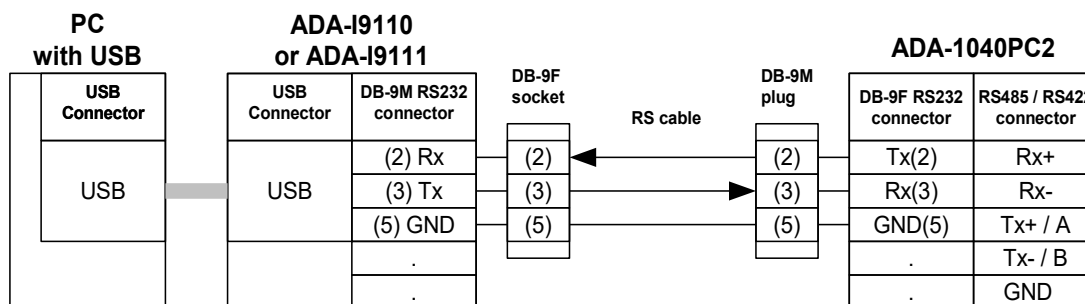

Fig. 5. ADA-1040PC2 connection to Pc by the use of USB to RS232 converter ADA-I9110/ADA-I9111
- USB port of computer, should have additional converter USB to RS232 (ADA-I9110 or ADA-I9111), which connect to RS232 port of ADA-1040PC2, like on the Fig.5.